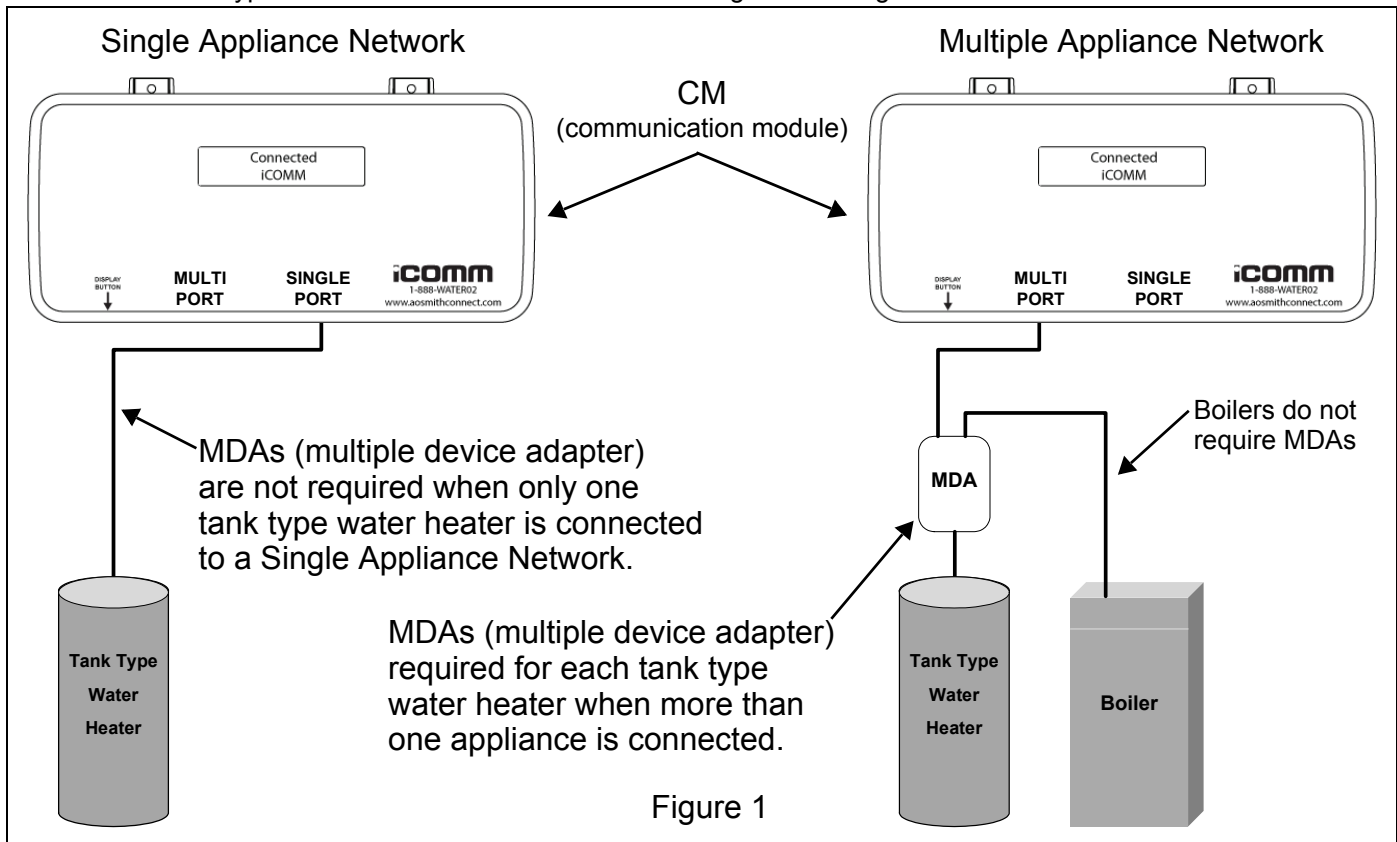

Figure 1
- MDAs (multiple device adapter - see page 16) are required for each “tank type” water heater on all Multiple Appliance Networks - networks with more than one water heating appliance connected. MDAs are an accessory component that is ordered separately. Determine how many “tank type” water heaters will be connected on all Multiple Appliance Networks. Order one MDA for each tank type water heater before the installation begins - see Figure 1.